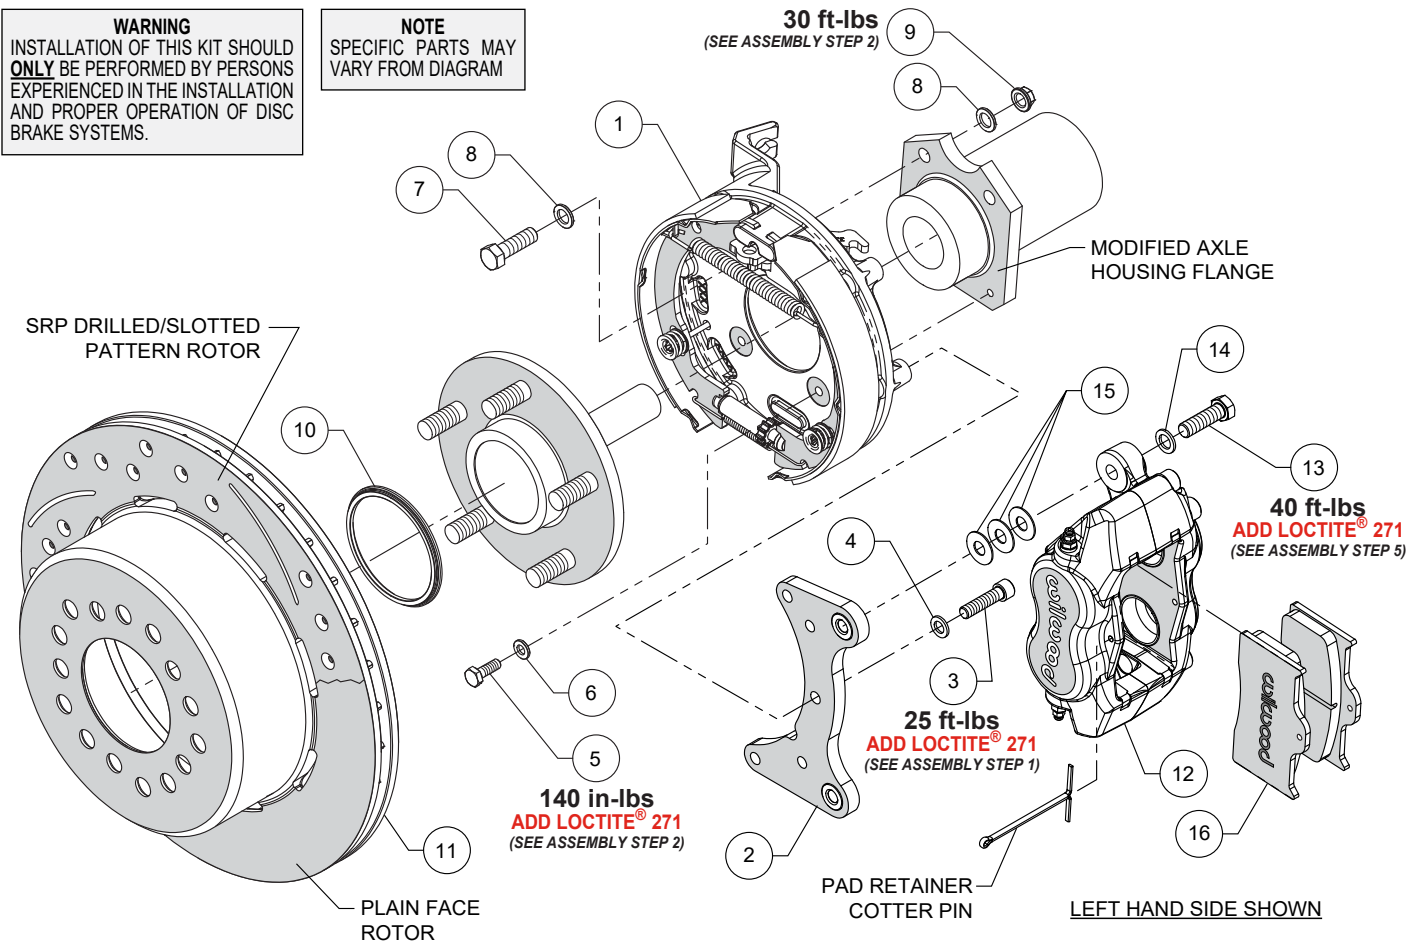
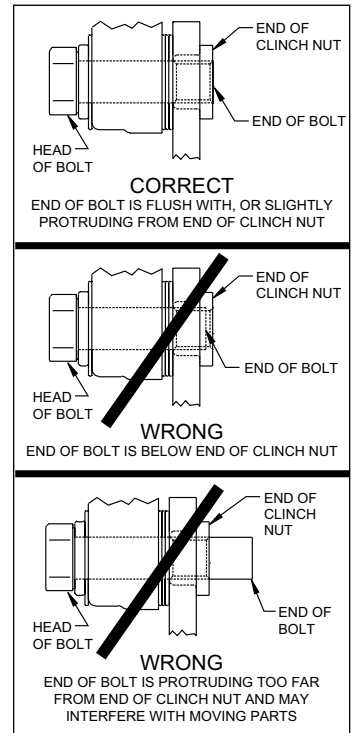

Figure 1. Typical Installation Configuration
Figure 4. Clinch Nut Engagement Diagram
NOTE: Numbers in parenthesis refer to the parts list and Figure 1 on the preceding pages.
CAUTION: All mounting bolts must fully engage clinch nuts. Be sure to check that all bolts are either flush or protruding through flanged side of clinch nut after shimming, Figure 4.
STEP 1 Orient the backing plate assembly (1) and caliper mounting bracket (2) as shown in Figure 1 and Photo 1. **NOTE:** Be sure the heads of the caliper bracket clinch nuts (2) are facing outward toward the wheel. Use bolts (3) and washers (4) to mount bracket to backing plate. Apply red *Loctite*® 271 to the bolt threads and torque to value shown in Figure 1.
STEP 2 Attach backing plate assembly/caliper mounting bracket to lower threaded holes of axle housing flange using bolts (5), and washers (6), as shown in Photo 2. Use bolts (7), washers (8), and lock nuts (9) on remaining upper bolt holes to finish attaching backing plate to axle housing, Figure 1. Temporarily tighten all the mounting bolts. **NOTE:** The backing plate must fit squarely against the axle housing flange face. Inspect for interference from casting irregularities, machining ridges, burrs, etc. After the fitment has been checked, torque nuts (9) to value shown in Figure 1. Remove the backing plate lower M6 mounting bolts (5) one at a time, apply red *Loctite*® 271 to the threads and torque to value shown in Figure 1.
STEP 3 Slide the axle into the axle housing and secure following OEM instructions. Install the rotor registration adapter (10) onto the axle flange with the smaller O.D. facing toward the rotor/hat (11), Photo 3.
STEP 4 Align the correct hole pattern in the rotor/hat with the stud pattern on the axle flange and slide into place, Figure 1 and Photo 4. **NOTE:** The rotor/hat must fit flush against the axle flange or excessive rotor run out may result. Install three lug nuts (finger tight) to keep the rotor/hat assembly in place while continuing with the installation, Photo 4. **NOTE:** Some OEM and after market axles come with stud sizes larger than 1/2" diameter. Verify stud size and have a qualified machine shop drill the bolt circle of the hat/rotor to the correct stud size, if necessary.
STEP 5 **NOTE:** Please reference the caution statement at the beginning of the assembly instructions. Mount the caliper (12) onto the caliper mounting bracket (2) using bolts (13) and washers (14), as shown in Figure 1 and Photo 6. Initially place three .035"
The end of each bolt (13) must be flush with or slightly protruding from the head of the clinch nut, as shown in Figure 4. If necessary place spare shims between washer (14) and caliper mounting ear to achieve the proper clinch nut engagement. Once the caliper alignment and clinch nut engagement are correct, remove the bolts (13) one at a time, apply red *Loctite®* 271 to bolt threads, and torque to value shown in Figure 1.